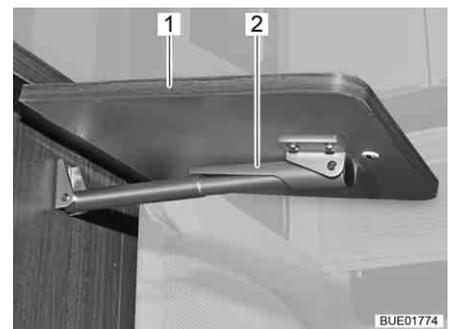

Fig. 75 Folding worktop, unlocked
- Slightly lift the folding worktop (Fig. 75,1). With your other hand, push the fixture (Fig. 75,2) on the telescopic holder upwards.